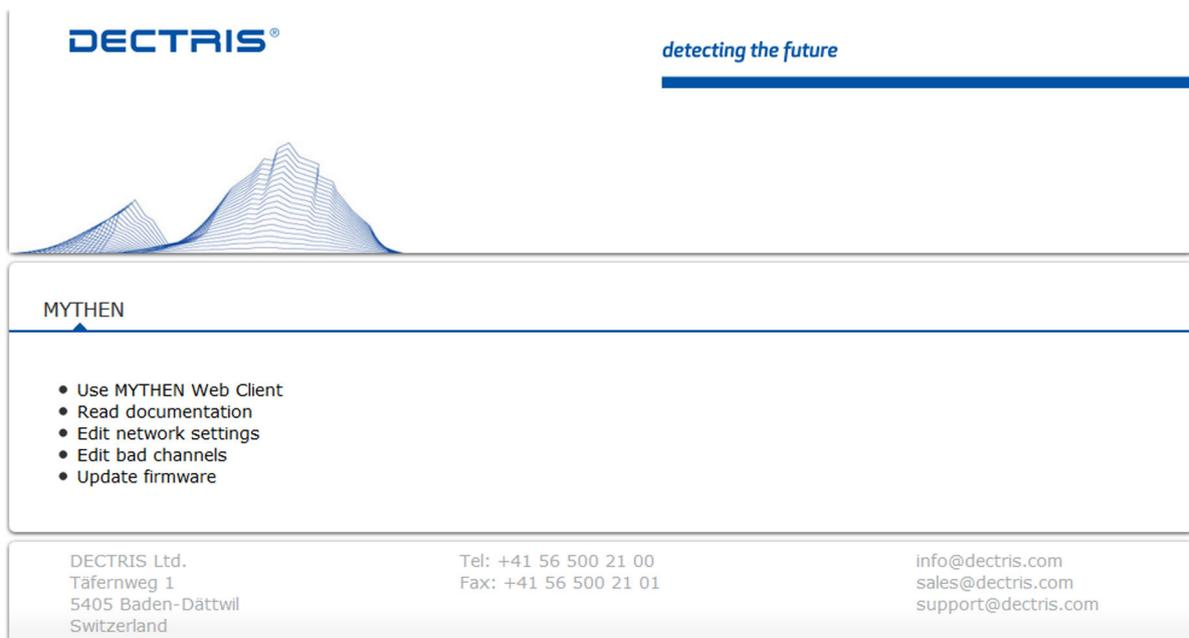

Figure 26. Access the DCS4 via the web browser.
Access your DCS4 with your web browser and your current IP address (Figure 26).
- Access your DCS4 with your web browser (Figure 26)